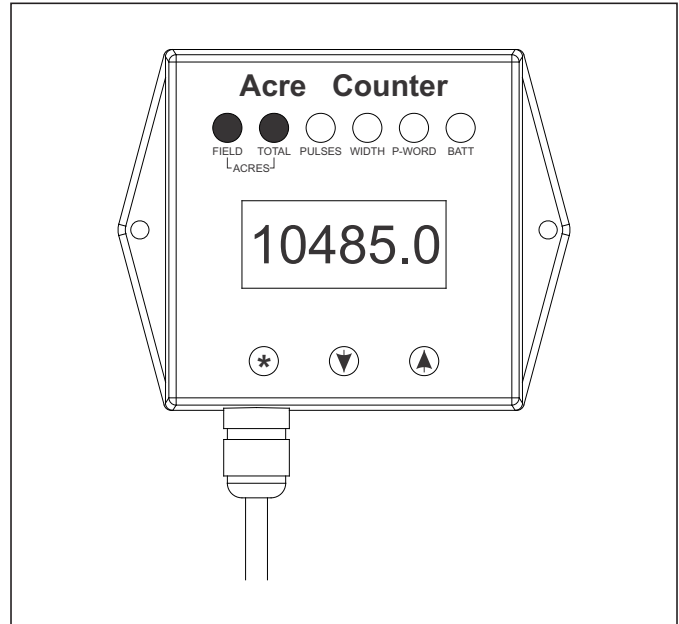

Figure 4-47: Total Acres Display
1. Press the **FUNC** button until the “**FIELD**” and “**TOTAL**” LEDs are lit. The digits indicate the acres covered since the total acre counter was cleared See Figure 4-47.